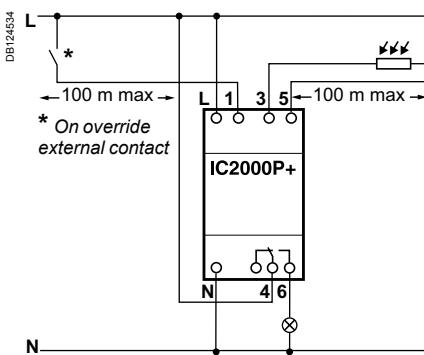

Fig. 2.
- Supply of terminal 1 overrides the IC 2000P+ output to the "On" position. This external override takes priority over the product On/Off override function (see Fig. 2, 3).